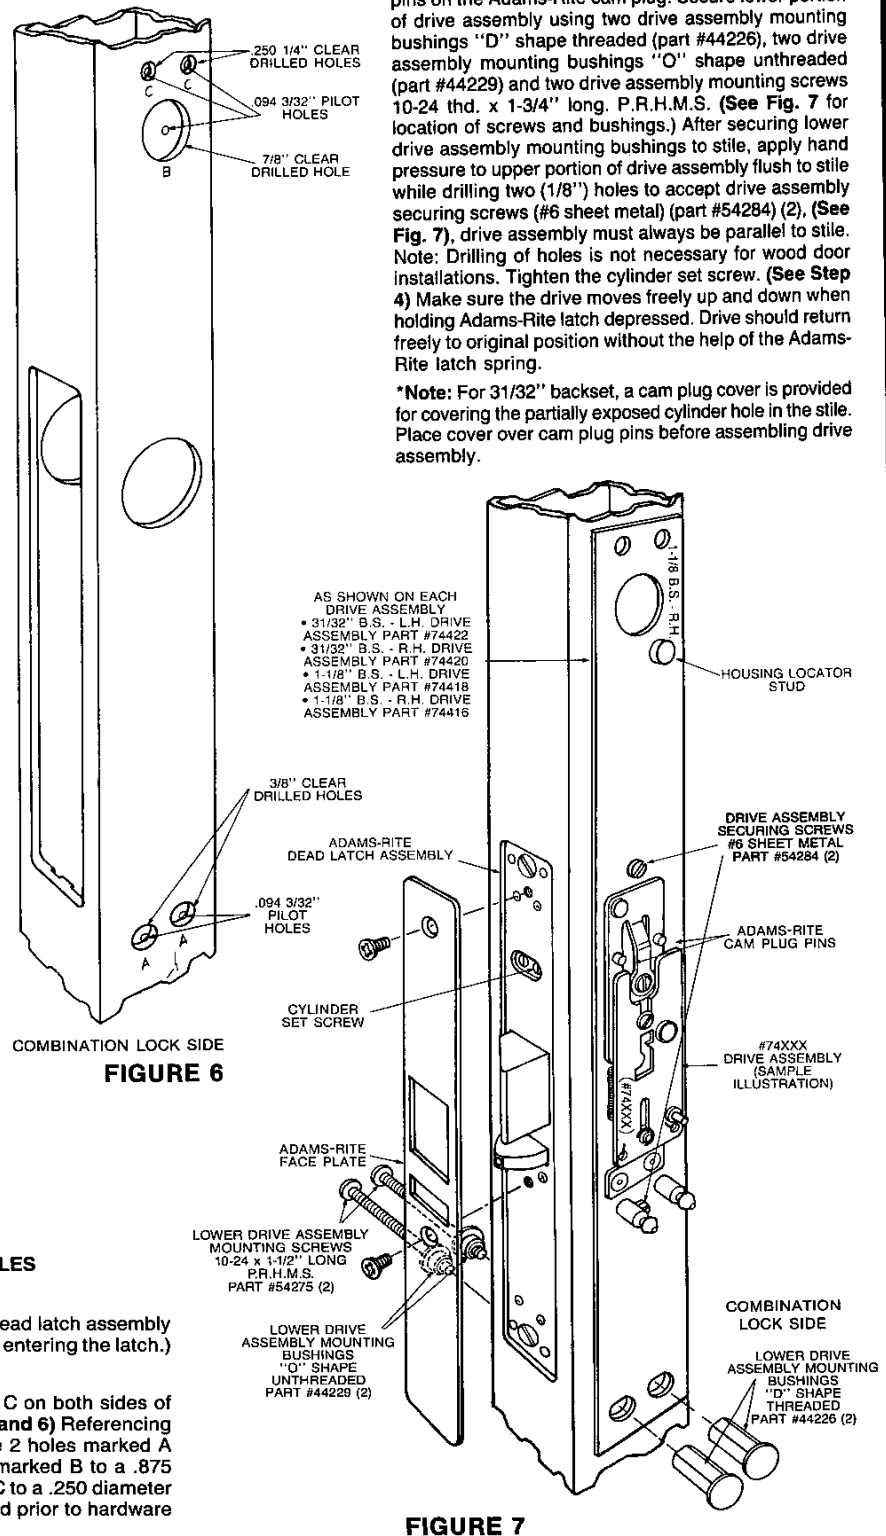

FIGURE 7
Step 14: (Figures 7 and 4)
*Locate the drive assembly on lock side of door over the pins on the Adams-Rite cam plug. Secure lower portion of drive assembly using two drive assembly mounting bushings "D" shape threaded (part #44226), two drive assembly mounting bushings "O" shape unthreaded (part #44229) and two drive assembly mounting screws 10-24 thd. x 1-3/4" long. P.R.H.M.S. (See Fig. 7 for location of screws and bushings.) After securing lower drive assembly mounting bushings to stile, apply hand pressure to upper portion of drive assembly flush to stile while drilling two (1/8") holes to accept drive assembly securing screws (#6 sheet metal) (part #54284) (2). (See Fig. 7). drive assembly must always be parallel to stile. Note: Drilling of holes is not necessary for wood door installations. Tighten the cylinder set screw. (See Step 4) Make sure the drive moves freely up and down when holding Adams-Rite latch depressed. Drive should return freely to original position without the help of the Adams-Rite latch spring.